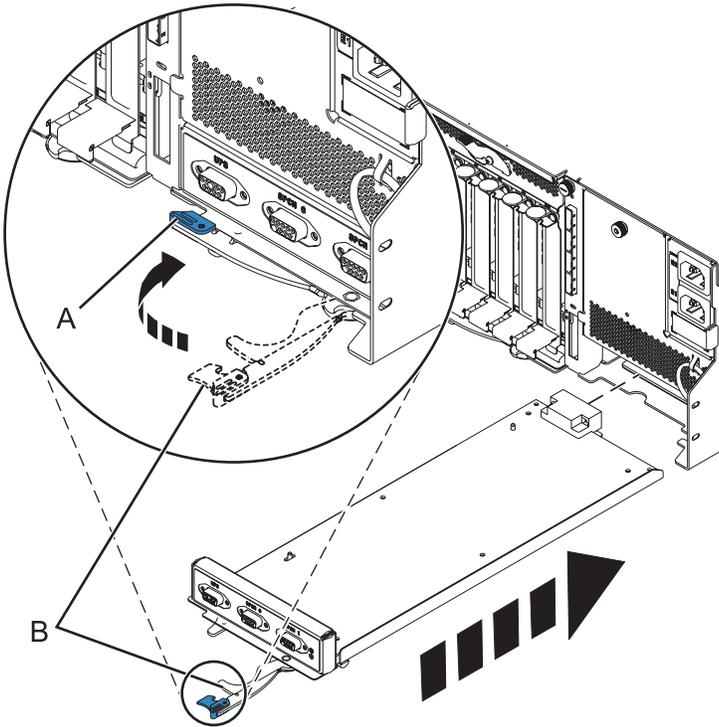

Figure 71. Replacing the enclosure management controller
- Carefully slide the enclosure management controller into the system and close the latch (A) as shown in Figure 71.